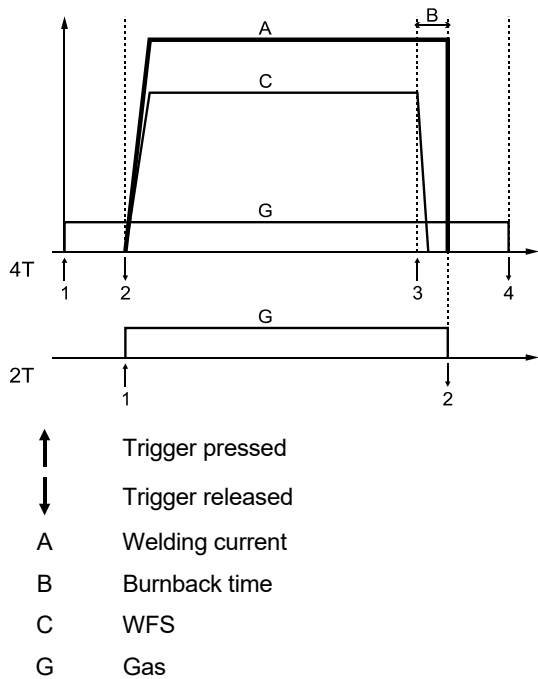

Figure 7.
19. Gun Mode Switch: It enables selection of 2-step or 4-step gun mode. The functionality of 2T/4T mode is shown in the Figure 7.